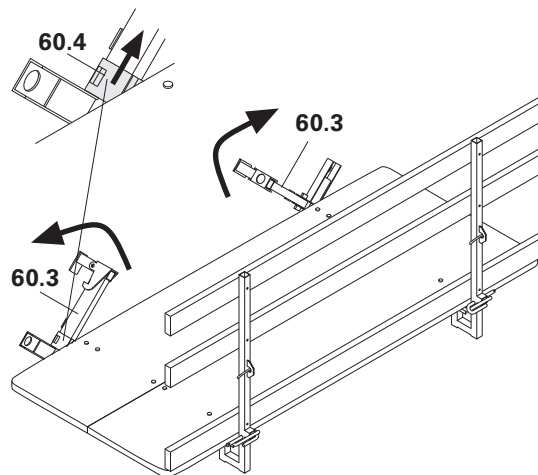

Fig. A7.02
2. Fold up Suspension Beam (60.3) until it engages. (Fig. A7.02)
The Sliding Sleeve (60.4) must be in position above. (Fig. A7.02)